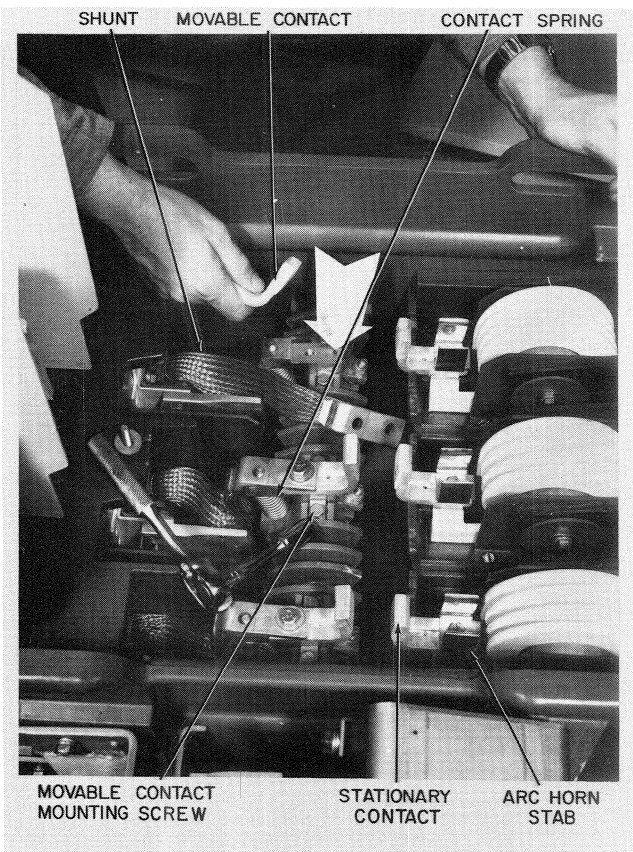

Fig. 19. Contactor open for servicing. Arrow points to pin for locating power contacts
3. With a socket wrench, loosen bolt securing contact. Since the contact is slotted (see Fig. 6) raise the contact to clear the locating pin as shown in Fig. 19. When loosening the bolt, on the stationary contact, care should be taken so that the dimension across the arc horn stab is not disturbed. Do not remove bolts.
The contact springs (see Fig. 19) must be replaced if they have been overheated from interrup-
To replace a contact spring, remove the movable contact assembly from the shaft by loosening the hardware shown in Fig. 19.